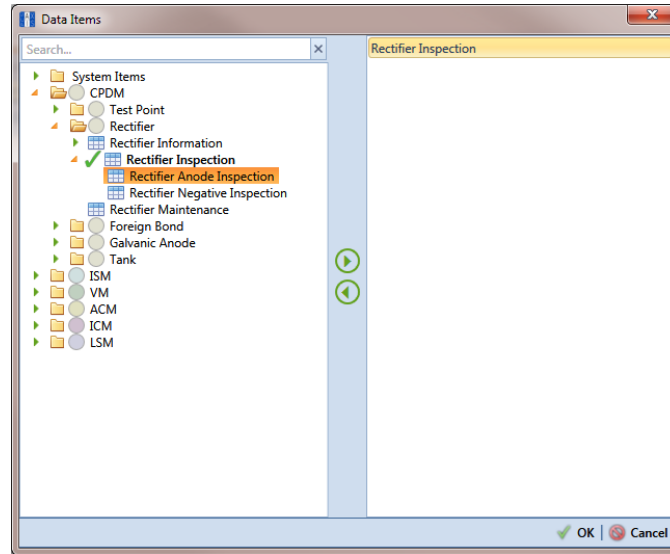

Figure 10-32. Data Items
- 13** Select the data item(s) you want to export from PCS Axis. Click  **Add Data Item** to open the *Data Items* window and then complete the following steps (Figure 10-32, page 520):